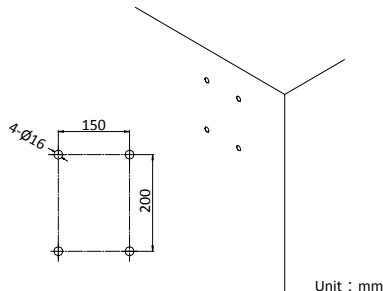

Figure 2-2 Drill Screw Holes
- 1) Drill four  $\text{Ø}16$  screw holes where you want to install the positioning system according to the holes on the bracket as shown in Figure 2-2.